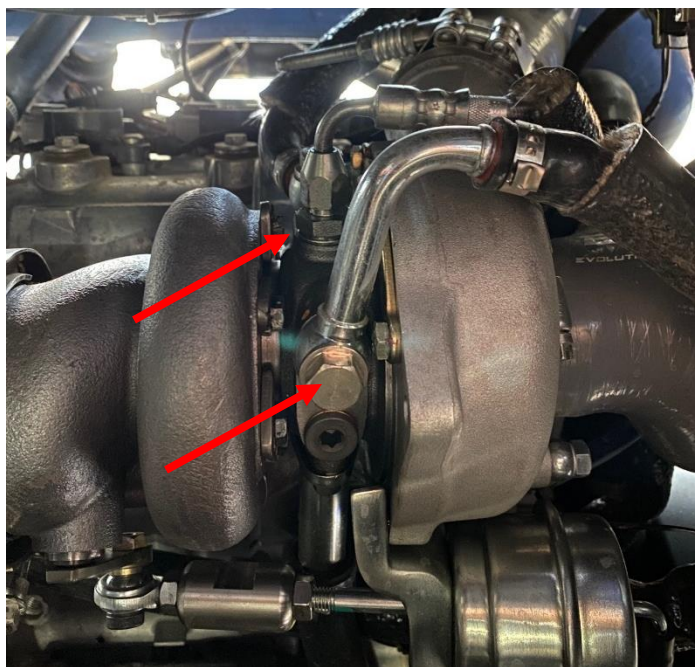

Figure 4
**Step 9:** Connect coolant lines to the turbo as shown in Figure 4.